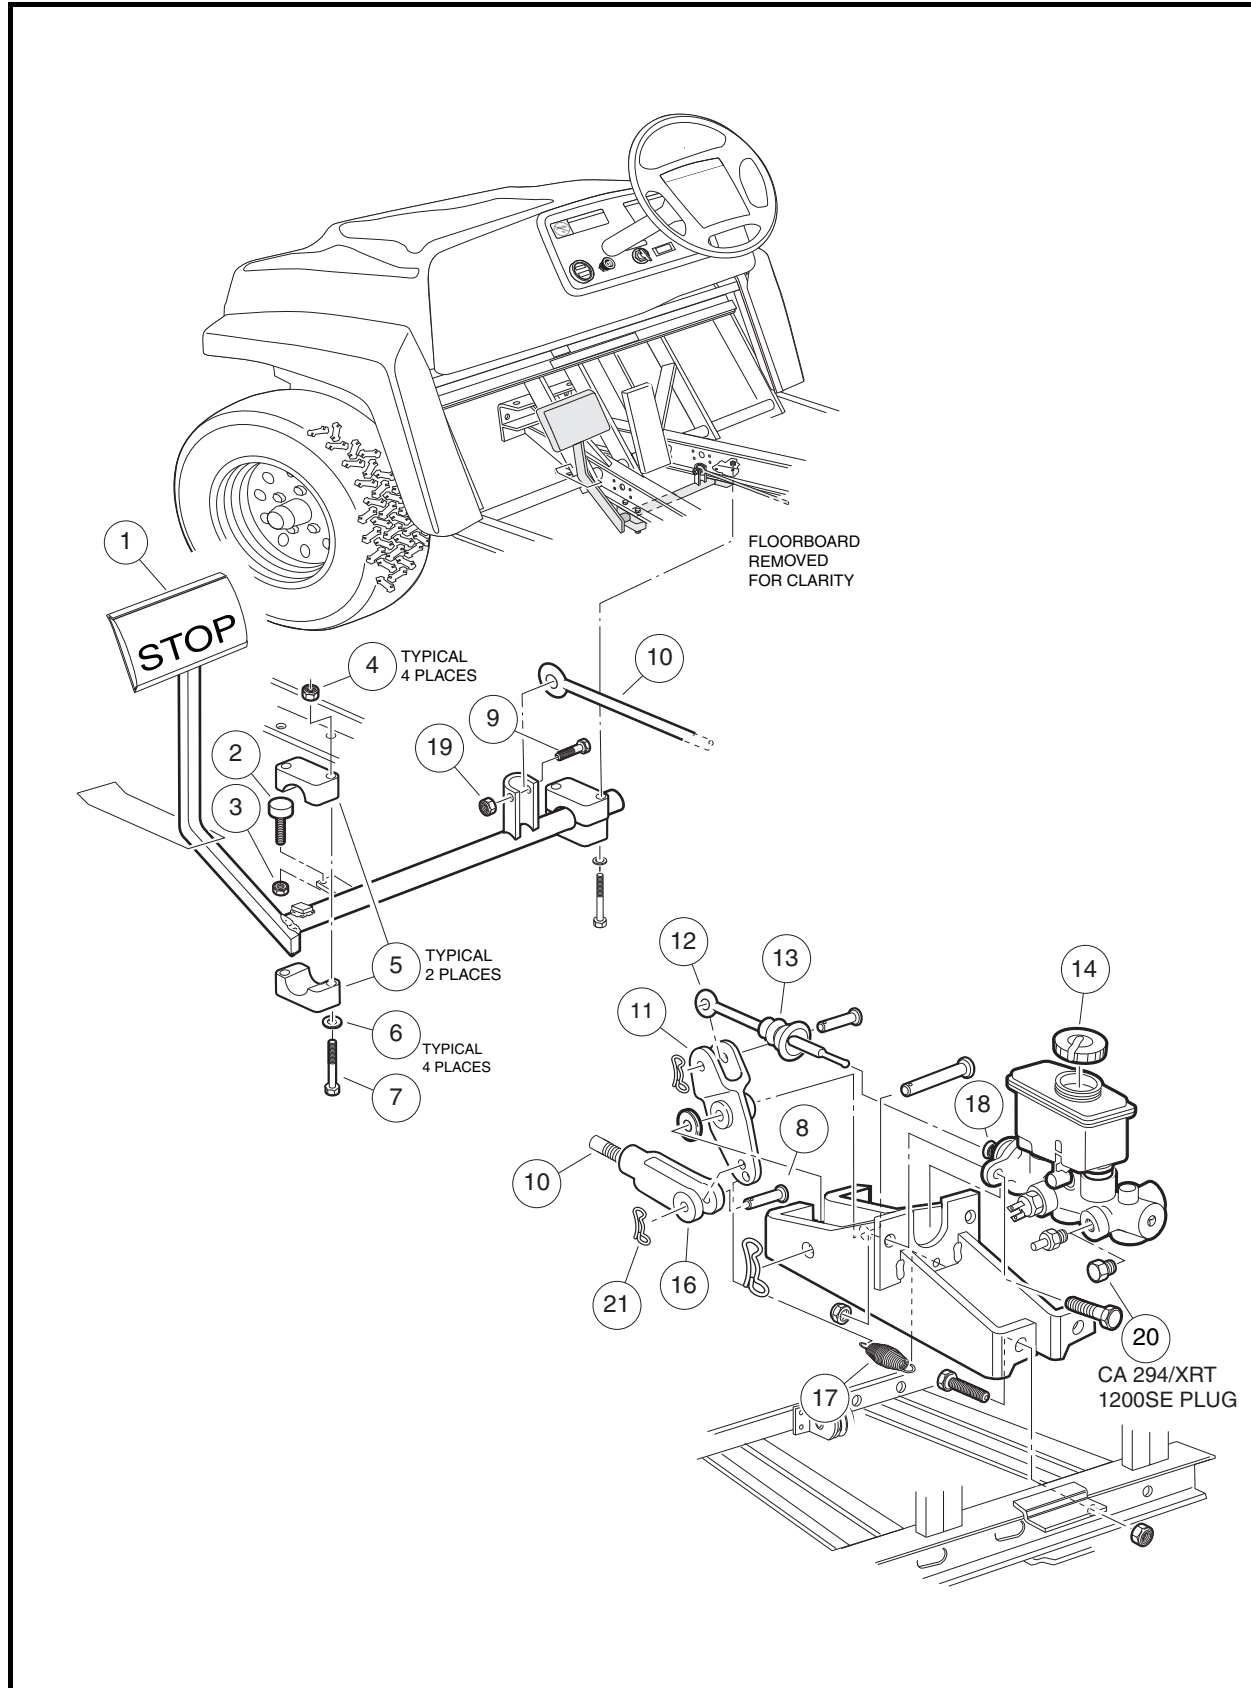
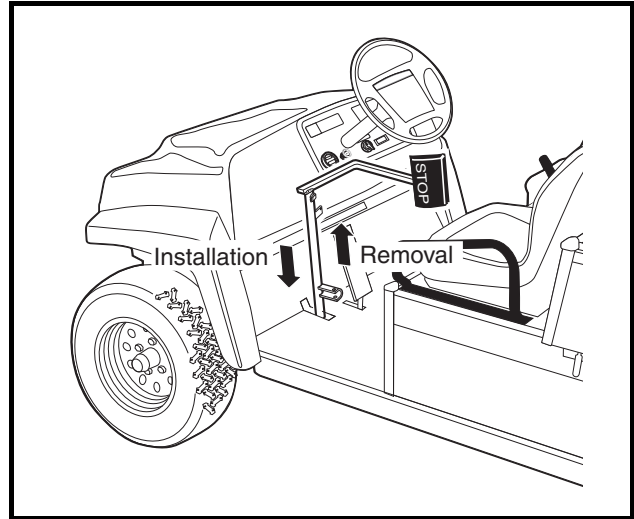

Figure 5-1 Brake Pedal Assembly
Figure 5-3 Brake Pedal Weldment Through Floor
- 4.1. Remove the bolt (9) and nut (19) (**Figure 5-1, Page 5-2**).
- 4.4. Lift pedal assembly through the floorboard (**Figure 5-3, Page 5-3**).
1. Insert the brake pedal assembly through the top side of the floorboard (**Figure 5-3, Page 5-3**) and install the brake pedal stop bumper (2) and nut (3) (**Figure 5-1, Page 5-2**) but do not tighten.
2. Position and attach brake pedal assembly and mounting blocks (5) with bolts (7), washers (6), and lock-nuts (4). Tighten to 70 in-lb (7.91 N·m) (**Figure 5-1, Page 5-2**).
3. Attach the equalizer rod (10) to the brake pedal assembly (1). Tighten to 17 in-lb (1.9 N·m).
2. Remove the brake rod clevis pin (8) and bow tie locking pin (21) from the brake push rod (16) and bell crank (11) (**Figure 5-1, Page 5-2**).
- Adjust the clevis (16) by rotating it so that the clevis pin (8) can be placed through the clevis (16) and the bottom hole in the bell crank assembly (11) (Figure 5-1, Page 5-2). See following NOTE.
**NOTE:** The spring (17) should not be under tension while the brake pedal is at rest.
- Install the bow tie locking pin (21).
**NOTE:** Brake pedal free play is the distance the push rod (12) travels before the master cylinder piston (18) is pressed (Figure 5-1, Page 5-2). Also see Figure 5-6, Page 5-4.